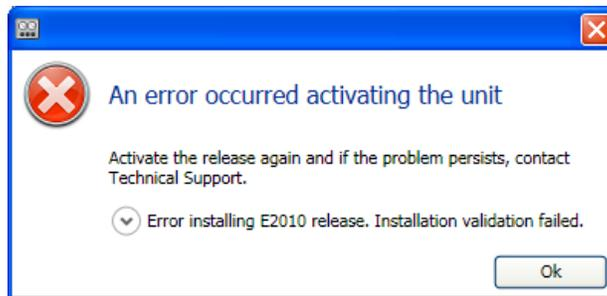

Figure 2-43: Failed Calibration Update
7. If the calibration update failed, the window in Figure 2-43 may display. If the message from Figure 2-42 matched, disregard this error. Otherwise, repeat the activation process.